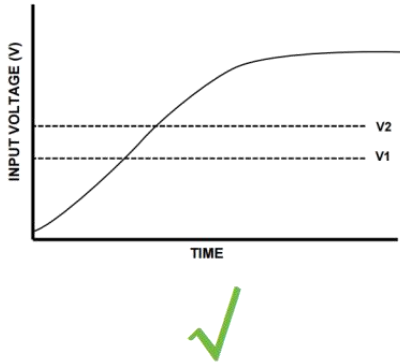
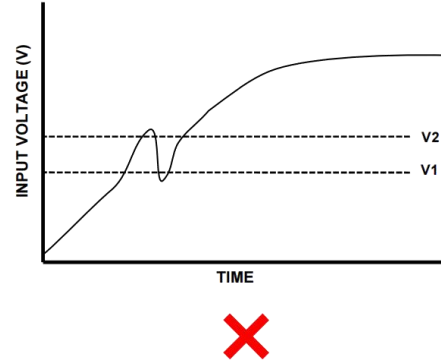

Figure 5-11 Monotonic power supply
Figure 5-12 Non-monotonic power supply
iSMD series drive must use the monotonic power supply shown in Figure 5-11 when powering on. If the non-monotonic power supply shown in Figure 5-12 is used, when the deviation is close to any threshold voltage, the non-monotonic slope may cause problems such as abnormal start of the driver, resulting in an error failure.
- In figure 5-11 and figure 5-12, V1 indicates 10V voltage, and V2 indicates 17V voltage.